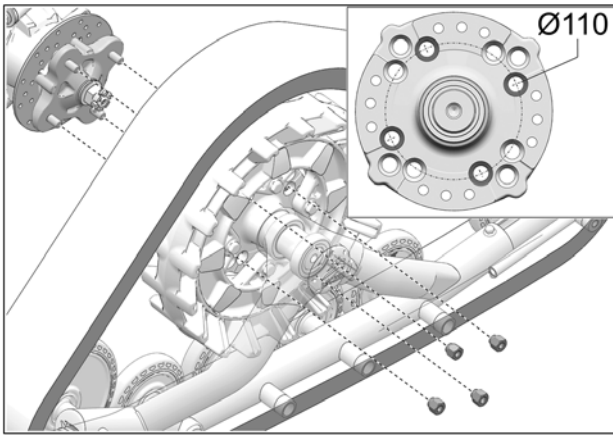

Fig. 13
7. Secure undercarriage to front hub using the vehicle's own lug nuts. Use bolt circle Ø110 mm. See Fig. 13